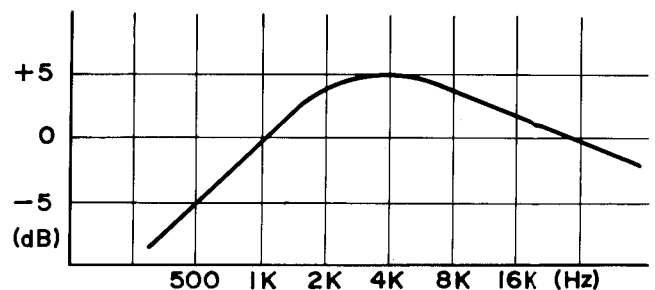

Figure 30–1
- Between the amplifiers A and B is connected the low-pass filter of 15 kHz. This low-pass filter serves to prevent the circuits from mis-operating possibly due to pilot signal coming from the FM tuner or record bias leaking from the tape deck amplifier. The signal coming out of the amplifier B is coupled to the record/playback switch and this signal is also applied to the input terminal α of the amplifier E. The amplifier C is a variable gain type and its frequency characteristic is shown in Fig. 30, which is like that assured by the high-pass filter. The amplifier G is to rectify a part of the signal coming out of the amplifier D and create a DC signal from this signal, regulating the variable attenuator of the amplifier C.
- The capacitors and resistors coupled with the terminals (13), (14) and (15) are to determine attack time and recovery time of the variable attenuator.